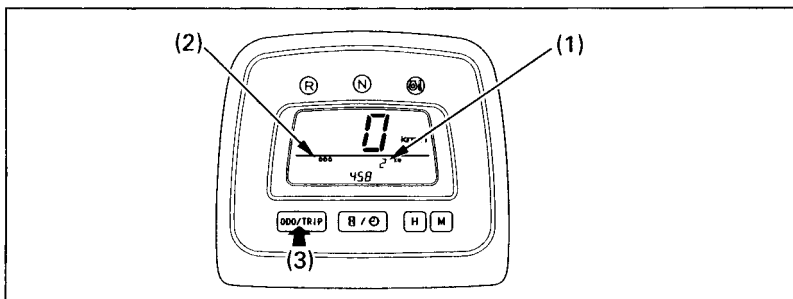

Fig. 2-17 (1) Odometer (3) Odometer/Tripmeter select button
When selected, the odometer (1) (Fig. 2-17) registers total distance traveled in kilometers while the ignition is I (ON). To change the display (2) from tripmeter to odometer, press and release the Odometer/Tripmeter select button (3).